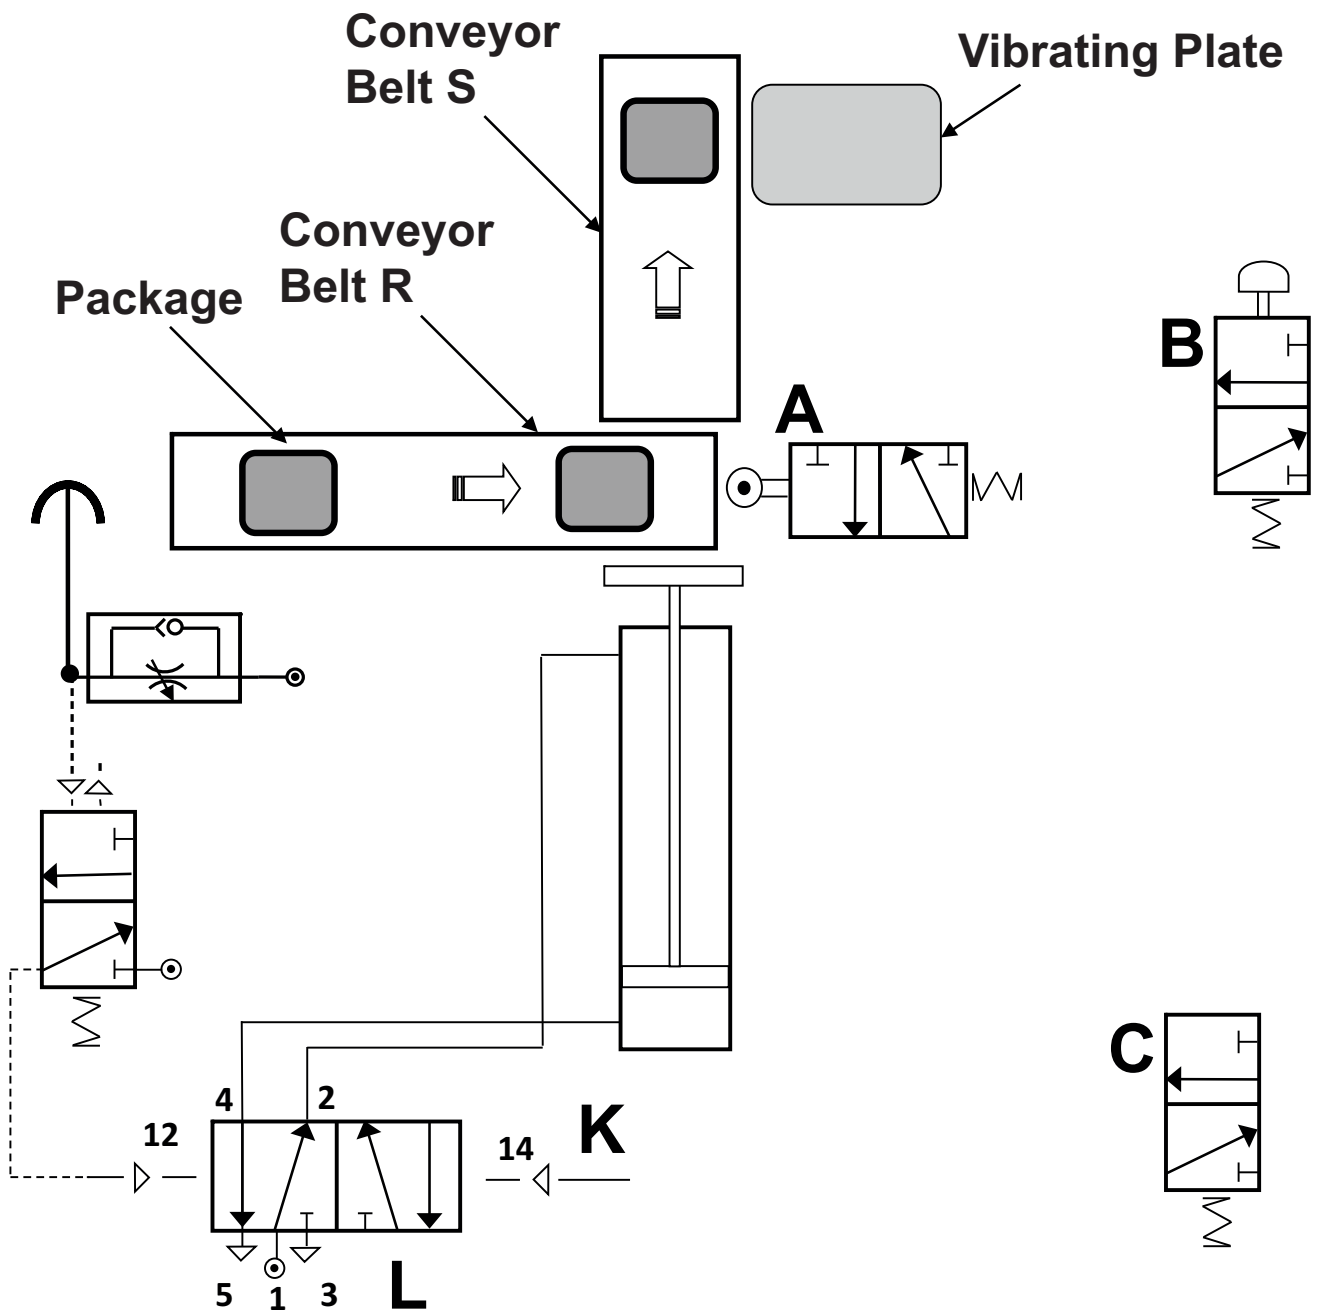

Fig. 6
- 3** **Fig. 6** shows an incomplete conveyor system which is to be used to move packages containing assorted toy building blocks from **Conveyor Belt R** to **Conveyor Belt S**.
(b) Describe how the double acting cylinder shown on **Fig. 6** instrokes following an activation of the air bleed. Your explanation should include the names of the components used and reference to the flow of air. [3 marks]
(c) The conveyor system includes a vibrating plate shown on **Fig. 6**, powered by an electric motor, which is used to ensure that the enclosed toy blocks are evenly distributed.